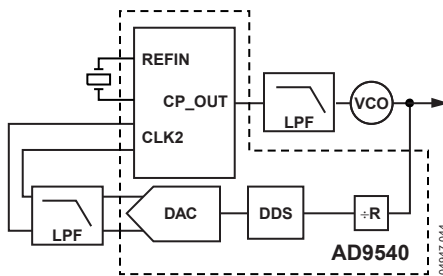

Figure 34. Fractional-Divider Loop
**Fractional-Divider Loop** This loop offers the precise frequency division (48-bit) of the DDS in the feedback path as well as the frequency sweeping capability of the DDS. Programming the DDS to sweep from 24 MHz to 25 MHz sweeps the output of the VCO from 2.7 GHz to 2.6 GHz. The reference in this case is a simple crystal (see Figure 34).